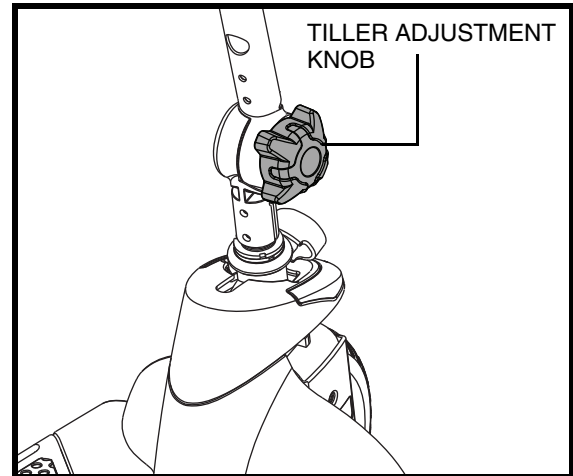

Figure 13. Tiller Adjustment Knob
1. While supporting the tiller, turn the tiller adjustment knob counterclockwise to loosen the tiller. See figure 13.